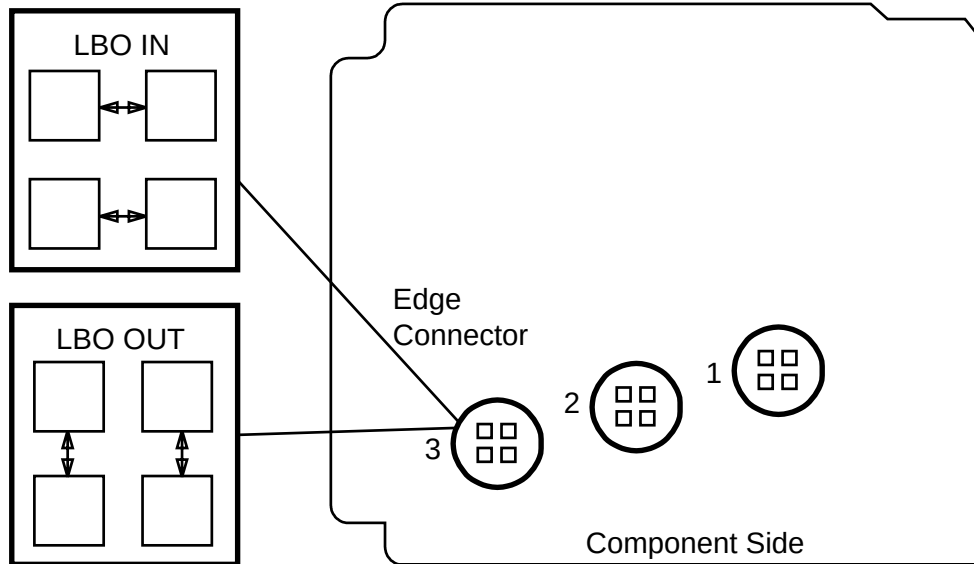

Figure 5. BBG12 3STS1E Option Settings
32. Refer to Table K and Figure 5. Install STS-1 option jumpers per Table K.